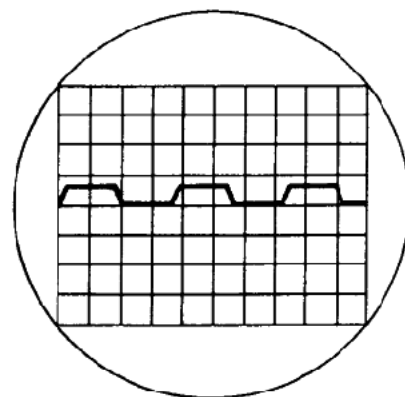

Fig. 11
11. Select **volts/power**, **400Hz** filter and **sine wave** input at a **frequency** of 1kHz and adjust **oscillator level** for 100W output. Select **1 Ω load**. the output should clip equally on both halves of the waveform as shown in Fig. 11.